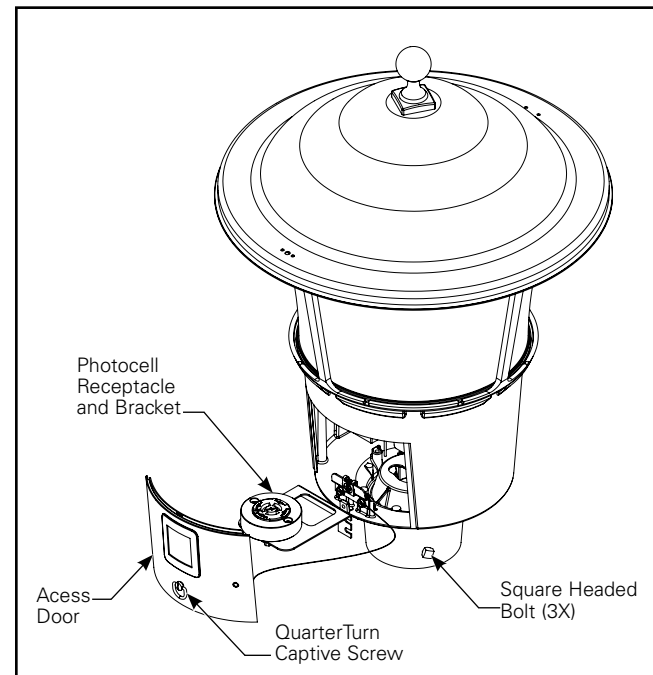

Figure 1.
1. Remove access door by turning the captive quarter turn screw counterclockwise to disengage lock. (Figure 1)
3. Place luminaire on pole and rotate until "STREET SIDE" is oriented toward the street or desired position. Tighten three square head bolts to 140-160 in-lbs. (Figure 1)